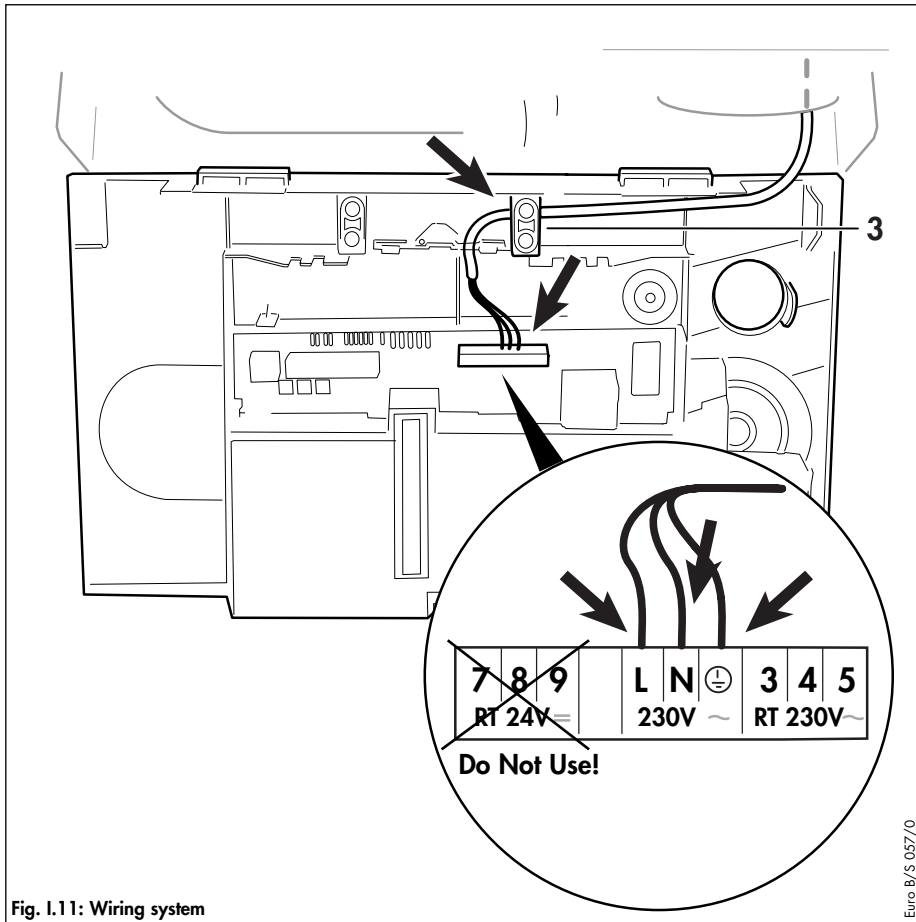

Fig. I.11: Wiring system
- Unclip the terminal box cover (1) from the control panel (2).
- Feed the power supply cord in to the appliance as shown (fig I.11).